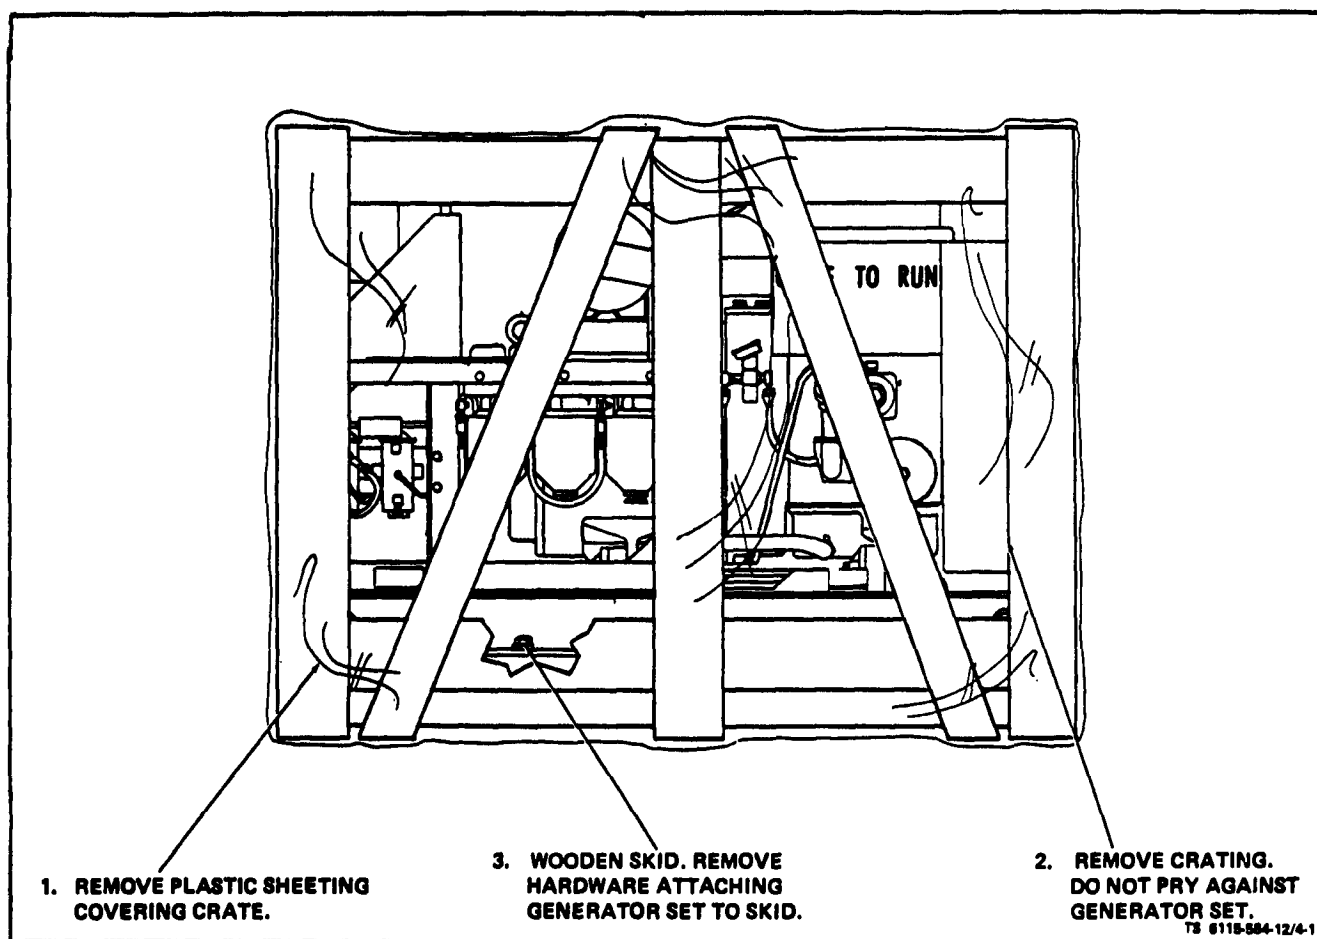

Figure 4-1. Uncrating Generator Set
(2) Remove the top and then the sides of the crate (figure 4-1).
(3) Remove barrier bag, dessicant bags, and shipping material from engine Generator Set.
(4) Disconnect engine Generator Set from crate skid by removing carriage bolts, nuts, washers, and lift engine Generator Set off skid.